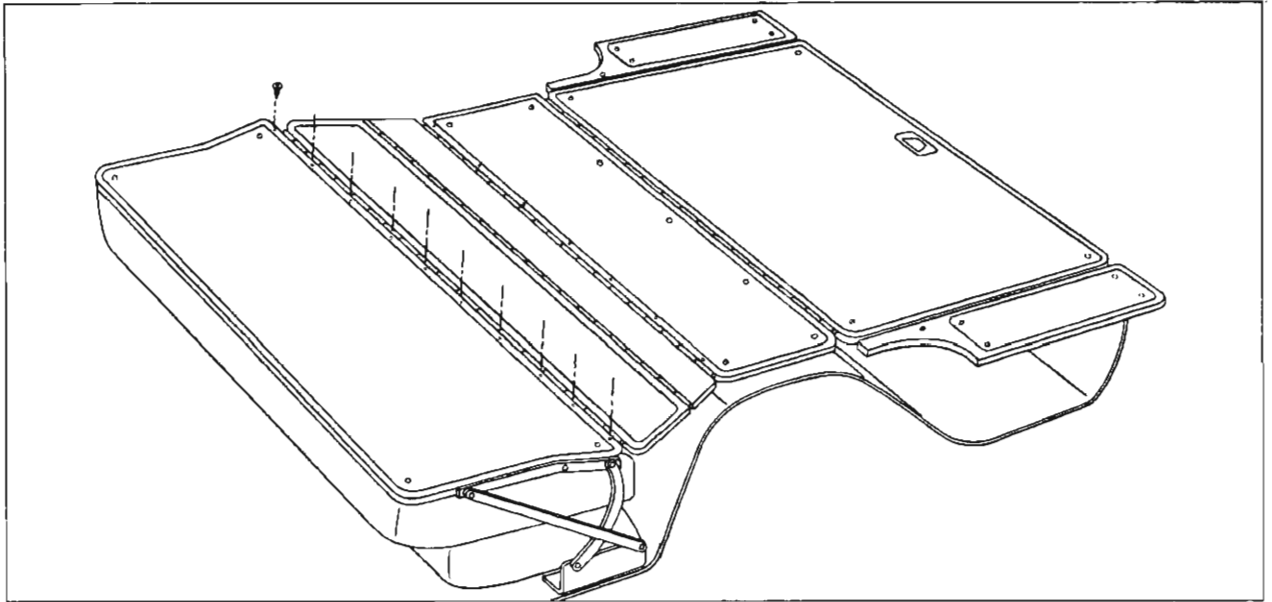

Fig. 17-6 Folding Rear Seat Back Assembly
2. Remove rear floor filler panel to folding seat back panel attaching screws as shown in Fig. 17-6.